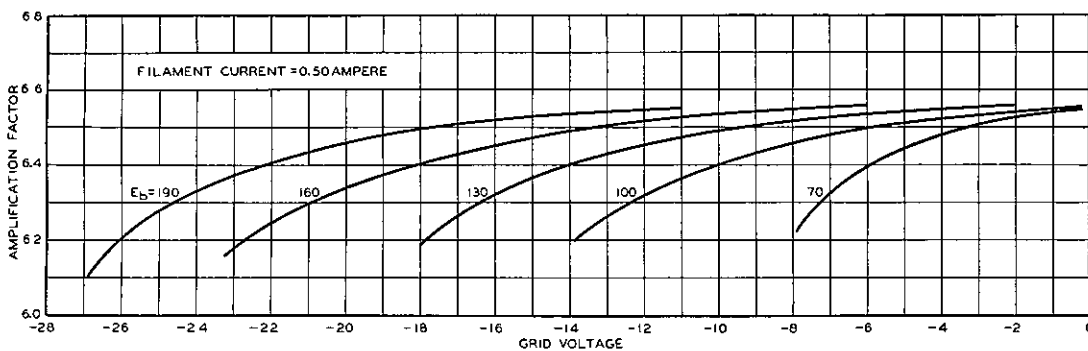
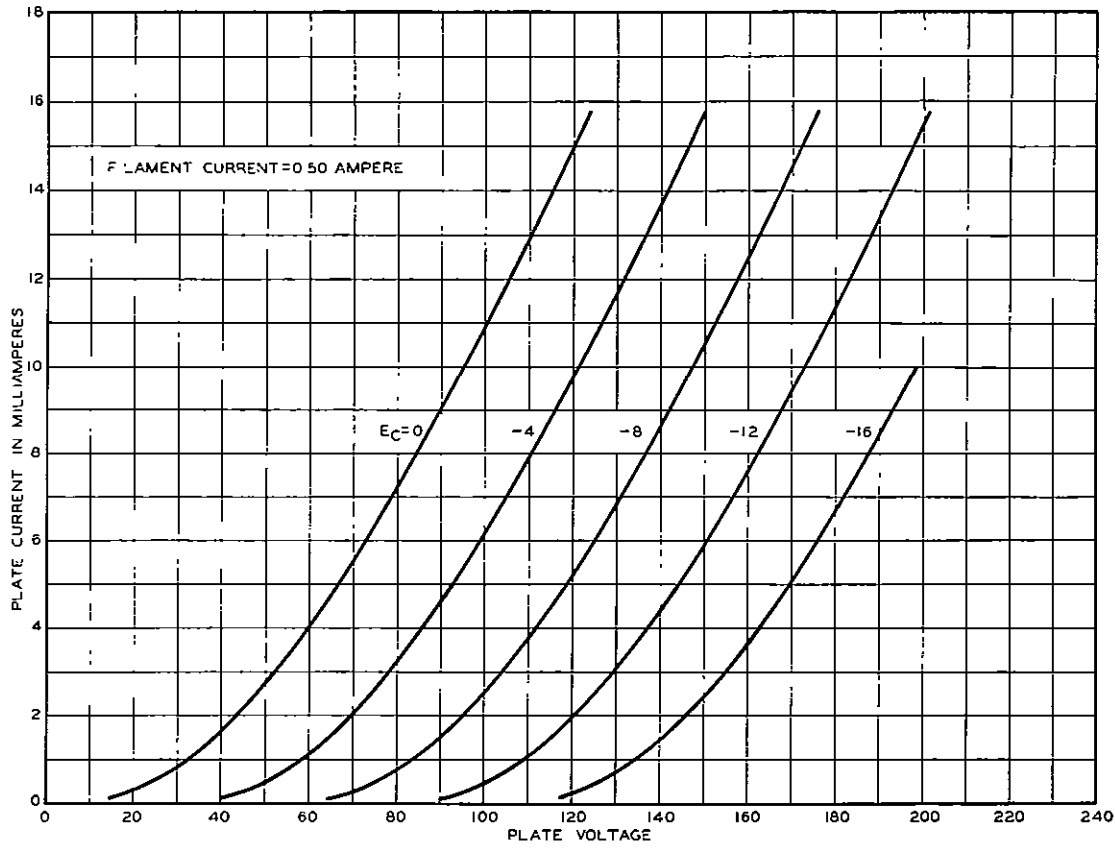

FIG. 4
FIG. 7
**Characteristics**—Typical curves showing plate current as a function of grid voltage for several values of plate voltage are shown in Figure 3. The grid and plate voltages are measured from the negative end of the filament. Corresponding amplification factor, plate resistance and transconductance characteristics are given in Figures 4, 5 and 6 respectively. Plate current as a function of plate voltage for several values of grid voltage is shown in Figure 7.